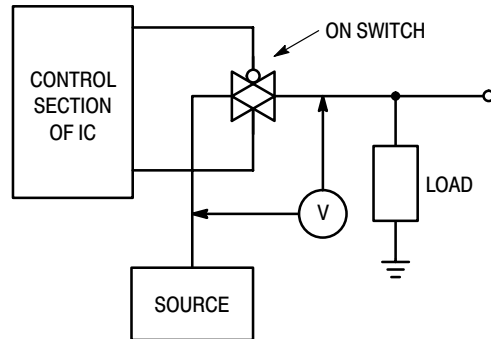

Figure 14.  $\Delta V$  Across Switch
5. For voltage drops across the switch (ΔVswitch) > 600 mV (> 300 mV at high temperature), excessive VDD current may be drawn; i.e., the current out of the switch may contain both VDD and switch input components. The reliability of the device will be unaffected unless the Maximum Ratings are exceeded. (See first page of this data sheet.) Reference Figure 14.